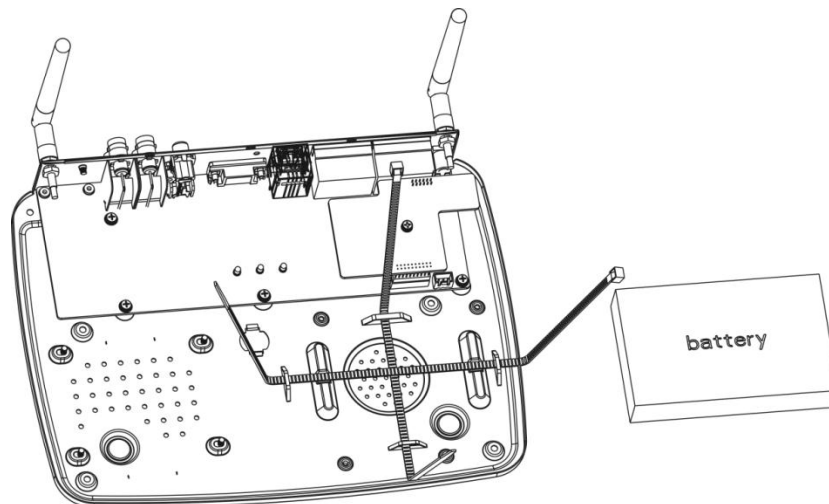

Figure 2-2
Step 1. Tie the two lines symmetrically and pull through pedestal, see Figure 2-2.